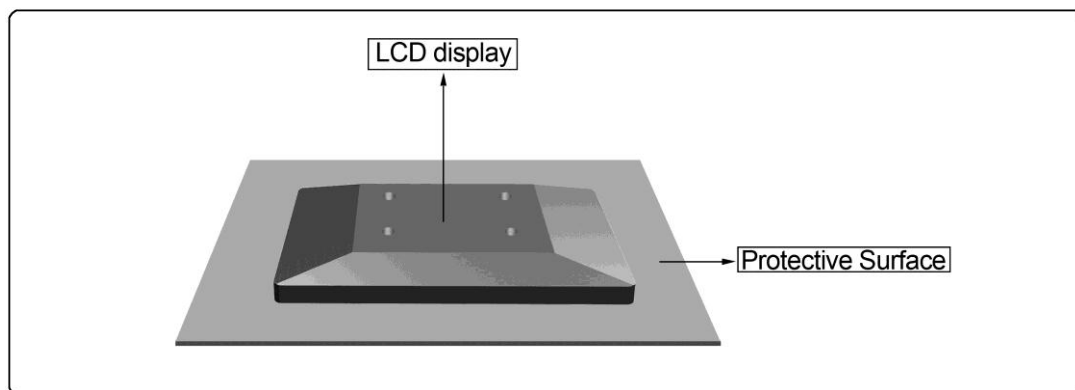

Figure 2-1
2. Carefully place the display face down on protective surface (**See Figure 2-1**).